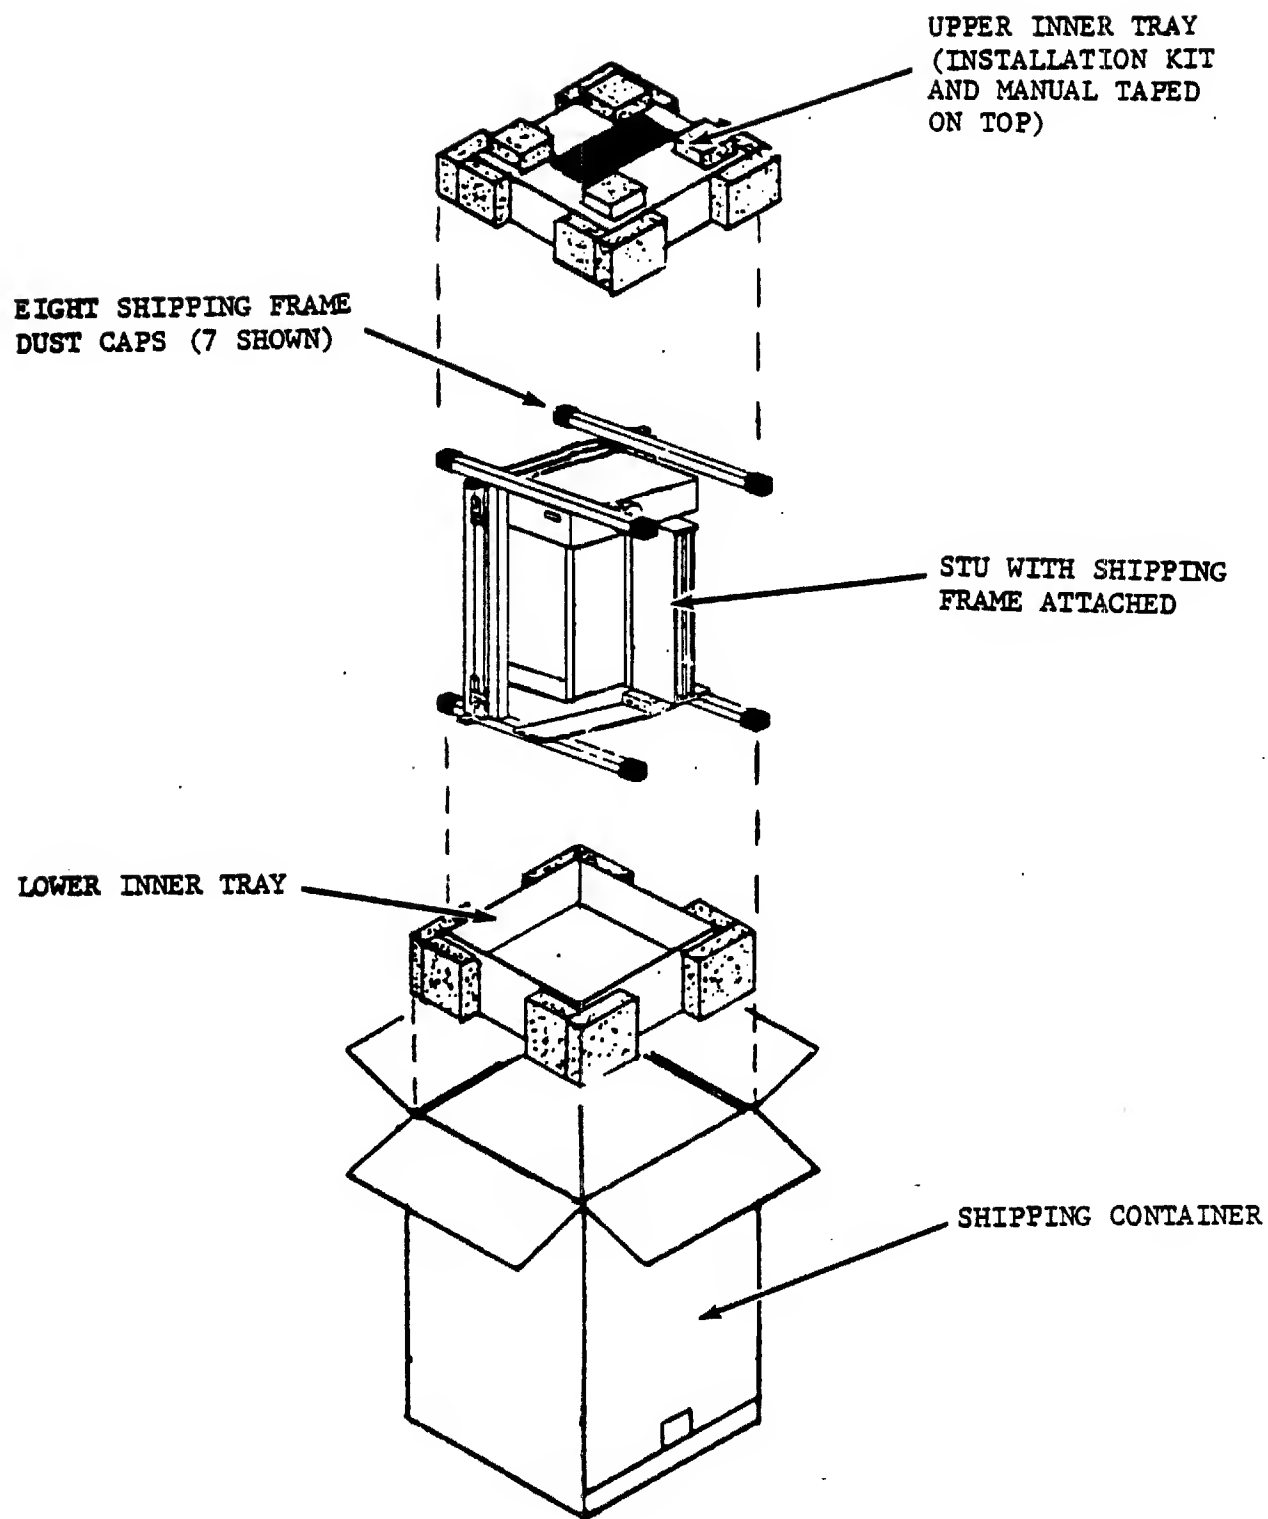

Figure 3-2. STU PACKAGING
Each STU is packed in a 500-pound tested, double-wall corrugated container, 23 inches by 24-1/2 inches by 31-1/2 inches high, with inner protective packaging as shown in Figure 3-2. The STU should be unpacked in the area or room where it will be installed and, because of the weight (approximately 117 pounds packaged), requires two people. Perform the unpacking as follows:
2. Remove STU and all protective packaging as follows: (See Figure 3-2)